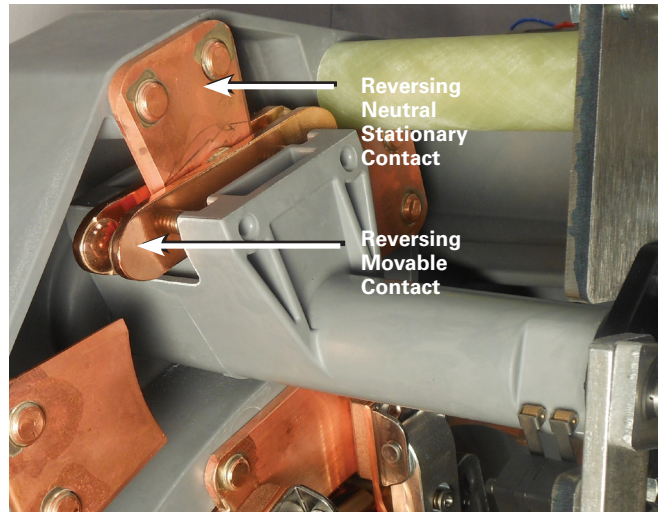

Figure 10. Neutral position for reversing movable.
- B. The reversing movable contact is located on the reversing neutral stationary contact. See Figure 10.